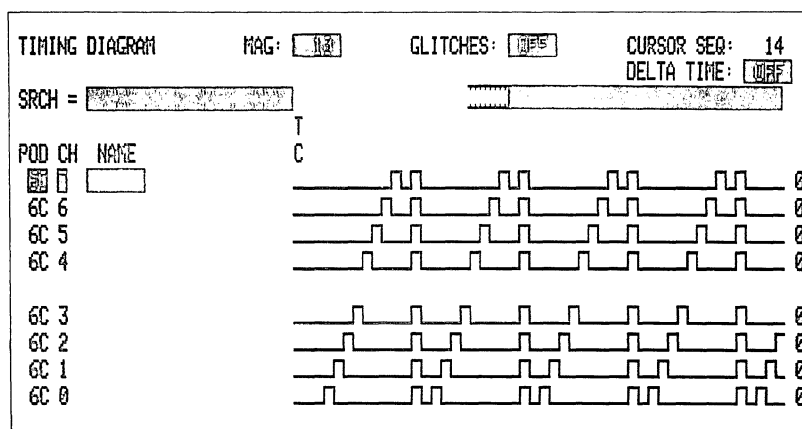

Figure 5-27. AND mode verification data.
3. Enter the Timing Diagram menu and examine the data acquired by pod 6C. The data should look like Figure 5-27.
6. Look at the data acquired by pod 6C on the Timing Diagram menu. The data should look like Figure 5-27. Proper data verifies the operation of the 91A08 using CLK1.
9. Look at the data acquired by pod 6C on the Timing Diagram menu. The data should look like Figure 5-27. Proper data verifies the operation of the 91A08 using the inversion of CLK1.